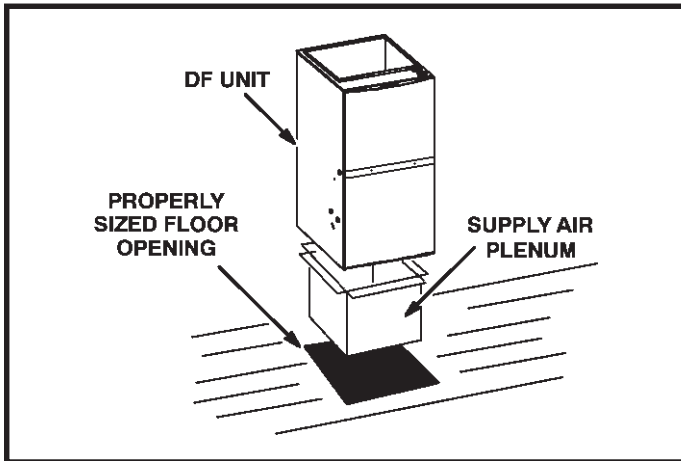

Figure 8
**Installation on Non-Combustible Flooring (Figure 8)**